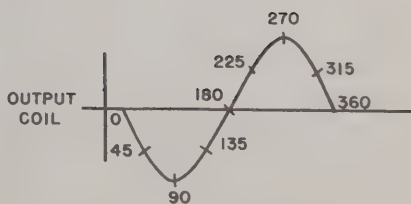

Figure 22. Tuning fork Y1.
(fig. 22 and 23)
a. The 800-cps oscillator uses a tuning fork assembly to generate a stable 800-cps ringing signal. The actual tuning fork is a U-shaped, metal element (A, fig. 22). The two arms of the U (the tines), when caused to move either by striking or pulling, will vibrate back and forth at a steady rate. This rate is fixed at the time of manufacture and is known as the *mechanical resonant frequency* of the tuning fork. Tuning fork assembly Y1 consists of such a tuning fork with two coils mounted between the tines. Each coil is wound on a permanent magnet core and has a permanent magnetic field surrounding it (B, fig. 22). The magnetic field exerts a force
of attraction on the tines of the tuning fork, making them assume the position shown in B, figure 22.
b. At the instant that power is applied to oscillator tube V2B, capacitor C5 will charge as shown in C, figure 22. The path of the current charging C5 is through the input coil (terminals 3 and 1) of Y1. The temporary surge of current through the input coil of Y1 will cause a momentary change in the magnetic field surrounding the coil. Assume that the surge of current causes the magnetic field to momentarily increase. The tines of the tuning fork will be drawn closer to the input coil (D, fig. 22) than when in their normal rest position (B, fig. 22).
c. As C5 becomes charged, the current flow through the input coil falls to zero (C, fig. 22) and the magnetic field decreases to its normal value. The tines of the tuning fork attempt to snap back to their rest position shown in B, figure 22. The mass of the tines carries them beyond their rest position and they vibrate as shown in E, figure 22.
e. The motion of the tines from their innermost (closest to the coils) position (0 to 180, E, fig. 22) to their outermost position and back again (180 to 360, E, fig. 22) represents 1 complete cycle of the oscillator. As the tines move outward from their closest position, the oscillator output voltage (at the plate of V2B) goes negative. The voltage reaches maximum as the tines pass through their normal rest position. It then starts to return to zero as the tines slow down when approaching the limit of their outward travel. Thus,  $\frac{1}{2}$  cycle of the oscillator output corresponds to the outward travel and  $\frac{1}{2}$  cycle corresponds to the inward travel. The frequency of the output voltage is, therefore, determined by the number of reversals, or vibrations, of the tuning fork. This, of course, is the mechanical resonant frequency of the tuning fork which is the governing factor of the oscillator frequency.